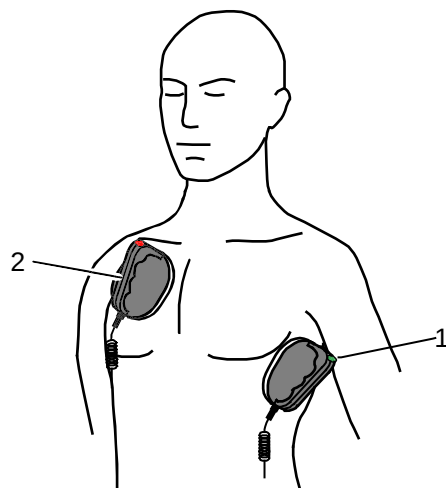

Fig. 5-8 Applying the shock paddles
5. Place the APEX shock paddle (Fig. 5-8, item 1) on the lower left of the thorax beside apex of the heart (5th ICS).
6. Place the STERNUM shock paddle (Fig. 5-8, item 2) to the right of the sternum.